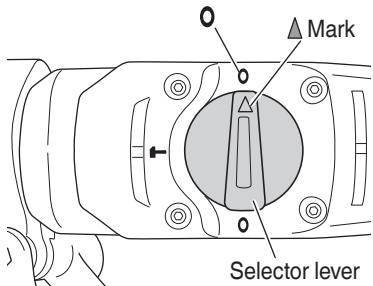

Fig. 3
- (1) The blade angle can be freely changed if the △ of the selector lever is aligned with the ○ of the crank cover, as illustrated in Fig. 3.